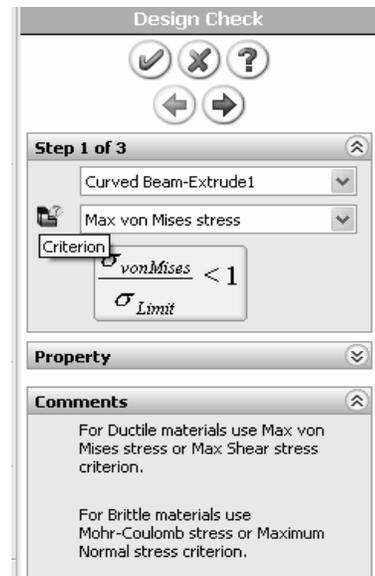

Figure 20 (repeated) – First **Design Check** property manager. The *comparison* stress (criteria) is selected here.
- Carefully read the contents of the **Comments** dialogue box in Fig. 20. Doing so reveals that the maximum von Mises stress is one of the failure criteria that can be used when determining the Safety Factor for *ductile* materials.